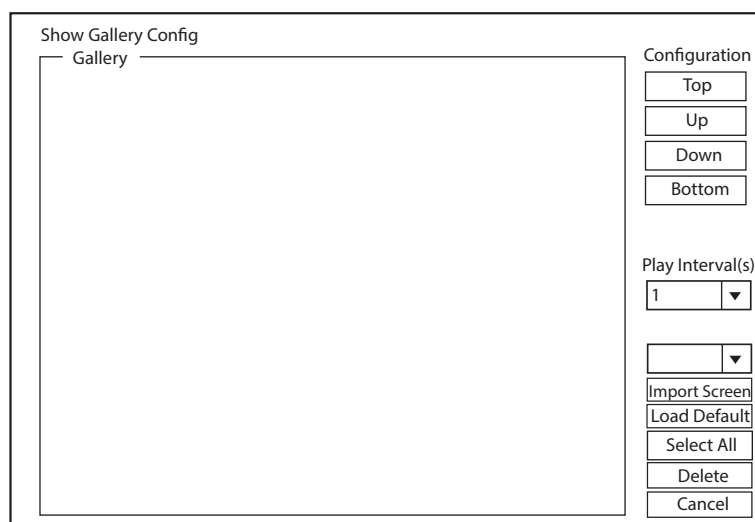

Figure 4-3 Show Gallery Menu
1. Click **Show Gallery** to enter the **Show Gallery** screen, as shown in Figure 4-3.